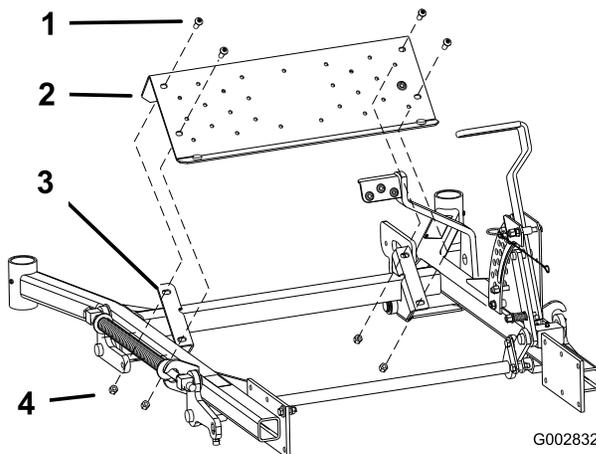

Figure 1
1. Raise the foot pan and then remove the footrest from the machine (Figure 1).
3. Install the footrest onto the machine and lower the footpan (Figure 1).